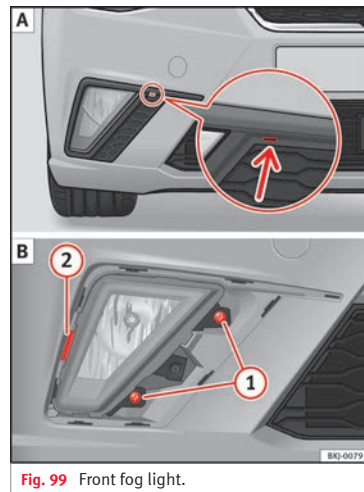

Fig. 99 Front fog light.
1. Lever with a screwdriver in the notch » **Fig. 99** **A** (arrow). Subsequently, remove the clips located on the edge of the grill with gentle leverage.